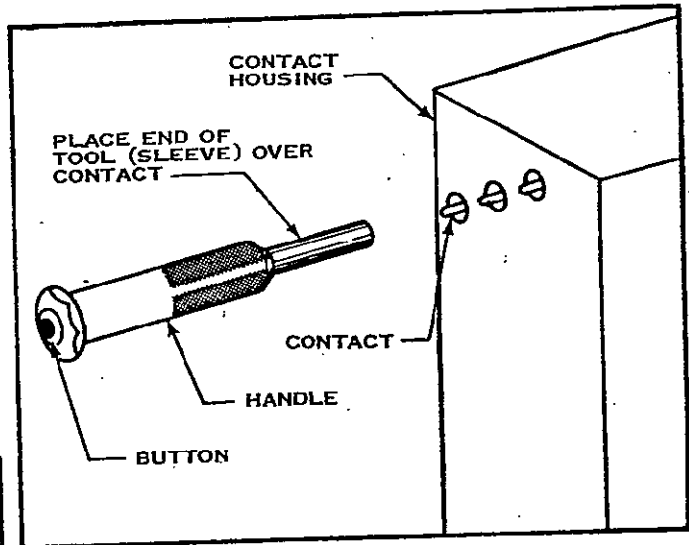

Fig. 3
- (a) Place end of Sleeve over end of Contact. See Figure 3.